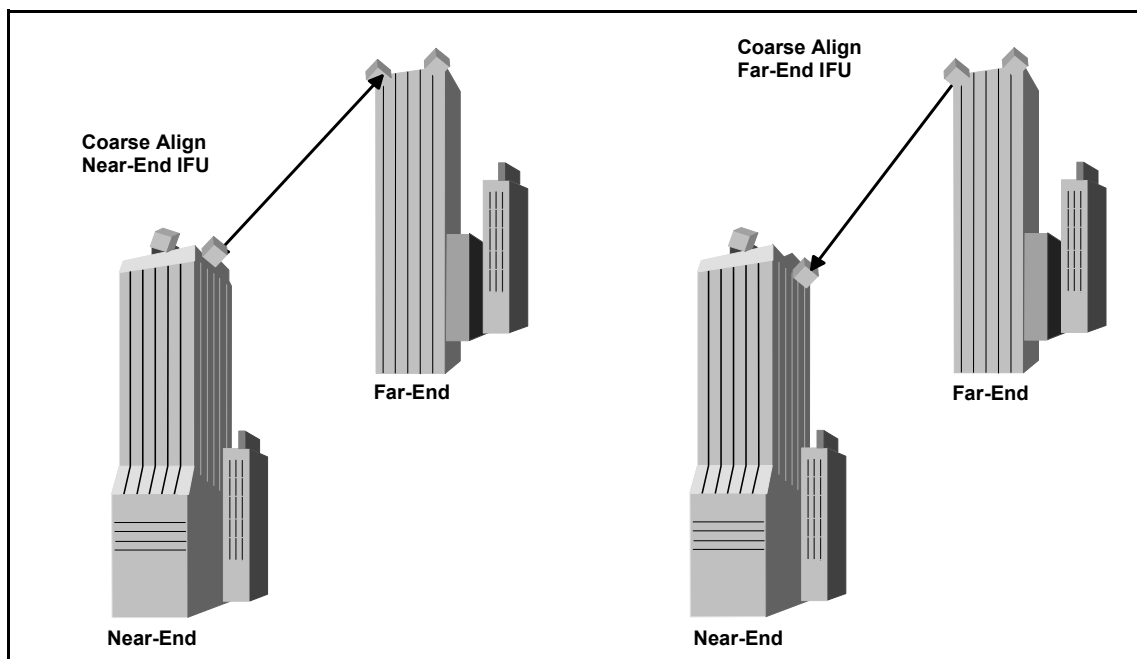

Figure 4-1. Coarse Alignment
- 2 Coarse align the near-end IFU to the far-end IFU pair and the far-end IFU to the near-end IFU using an optical alignment tool (see Figure 4-1).